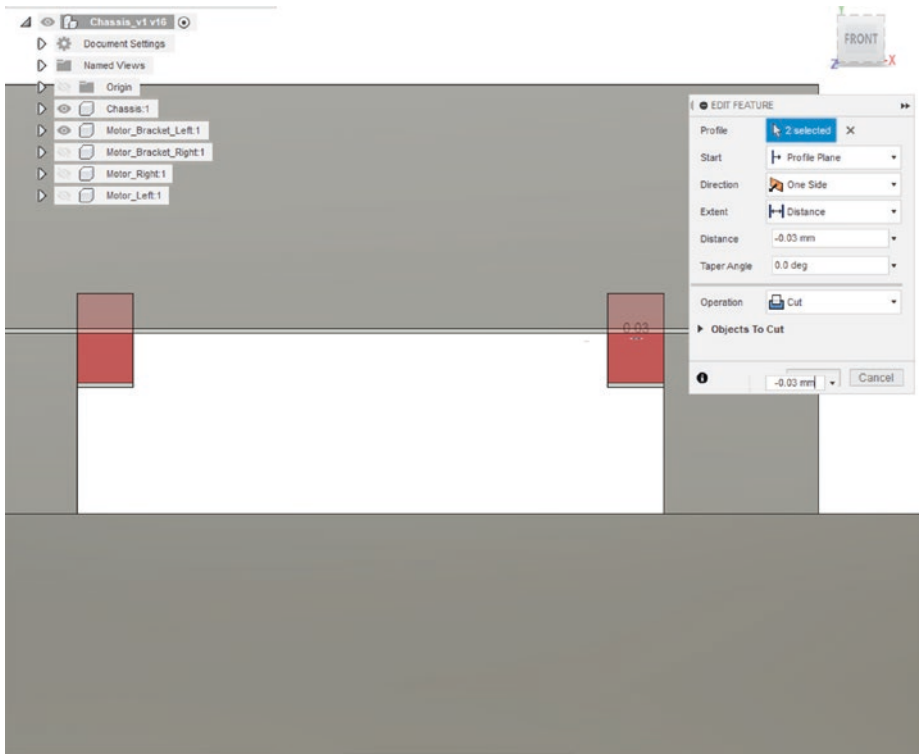

Figure 6-68. Cut 0.03mm from the front brace of the motor bracket
- 39. Extrude 0.03mm of plastic from the back of the two braces at the front of the motor bracket. See Figure 6-68. If you need to hide the motor and chassis, that is fine.